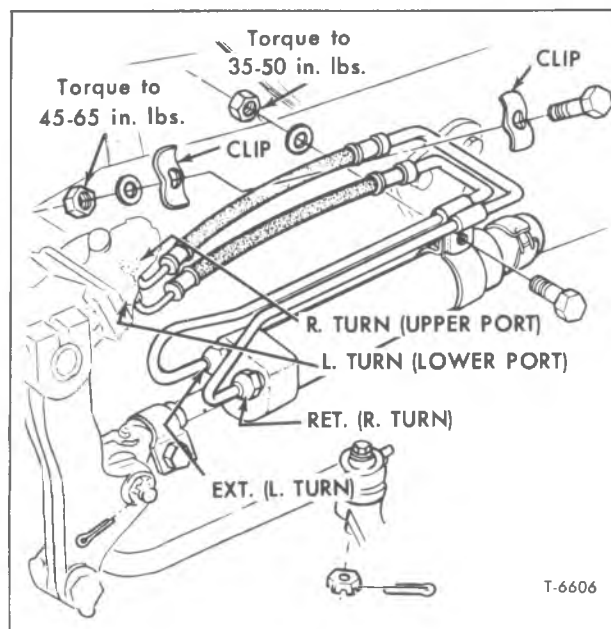

Figure 9—Side Mounted Power Steering Cylinder
POWER CYLINDER REPLACEMENT**SIDE MOUNTED CYLINDER****Removal (Fig. 9)**
Installation (Figs. 9 and 10)
6. Connect the two hydraulic lines being careful to connect the lines to the proper ports (fig. 9).